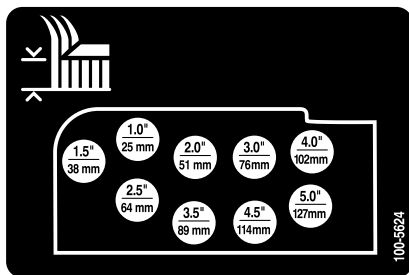

Figure 20
- Mount the height-of-cut chains to the desired height-of-cut hole (Figure 20) with the clevis pin and hairpin cotter.